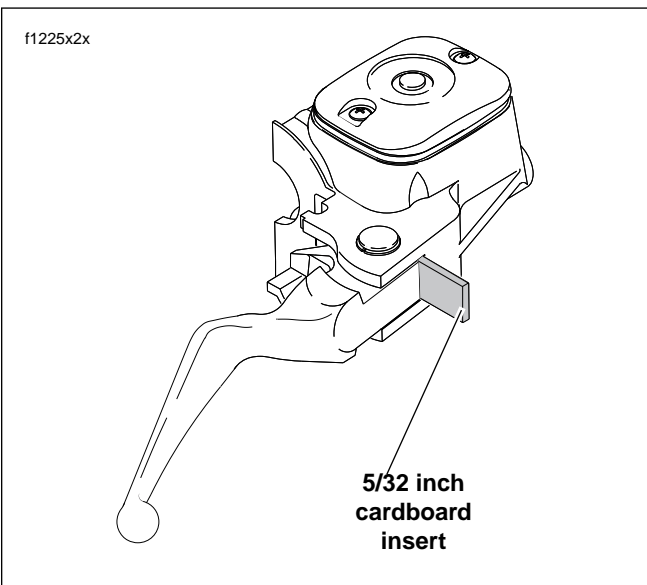

Figure 1. Install Cardboard Insert
2. See Figure 1. Place the cardboard insert between the brake lever and lever bracket.